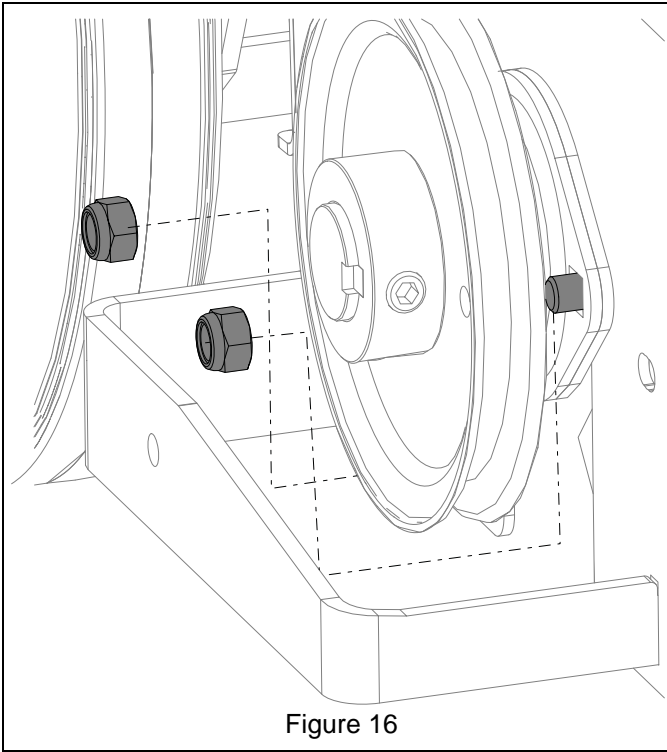

Figure 16
5. Secure the left side of the bearing mount with hardware removed earlier. See Figure 16.